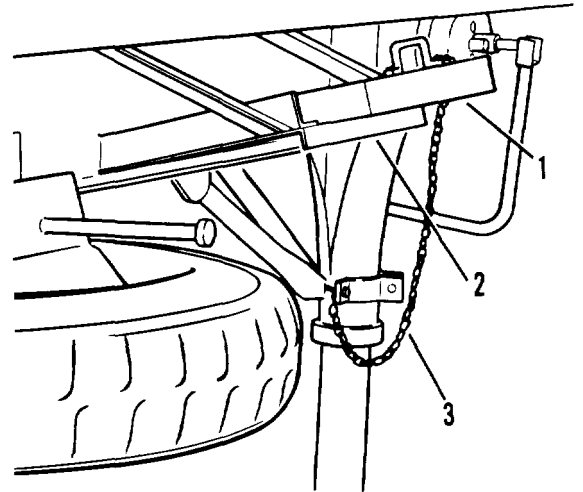

Figure 2-9. Float pad (board assembly)
- a. Two float pads (1, figure 2-9) are provided for placing under landing leg feet to keep them from sinking into soft ground.
- b. Stored in brackets (2) welded to frame.
- c. Secured to landing leg bracket with chains (3).